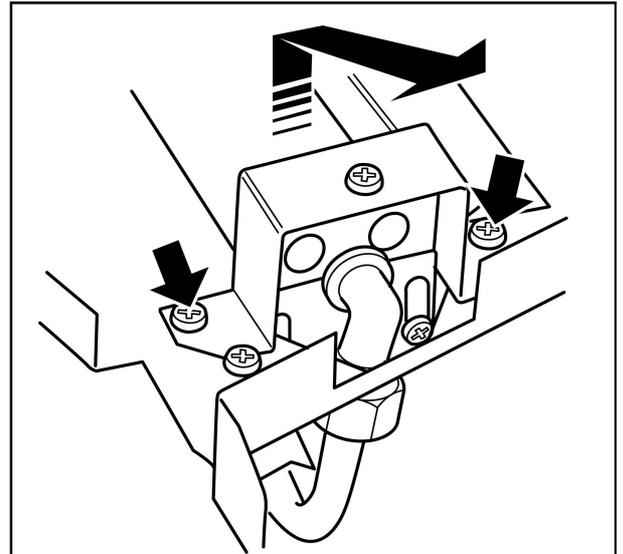

Figure 24. Removal of burner
**16.5 To replace the burner.** (See figure 24).
3. Remove the two screws from the burner clamping plate (See figure 24)